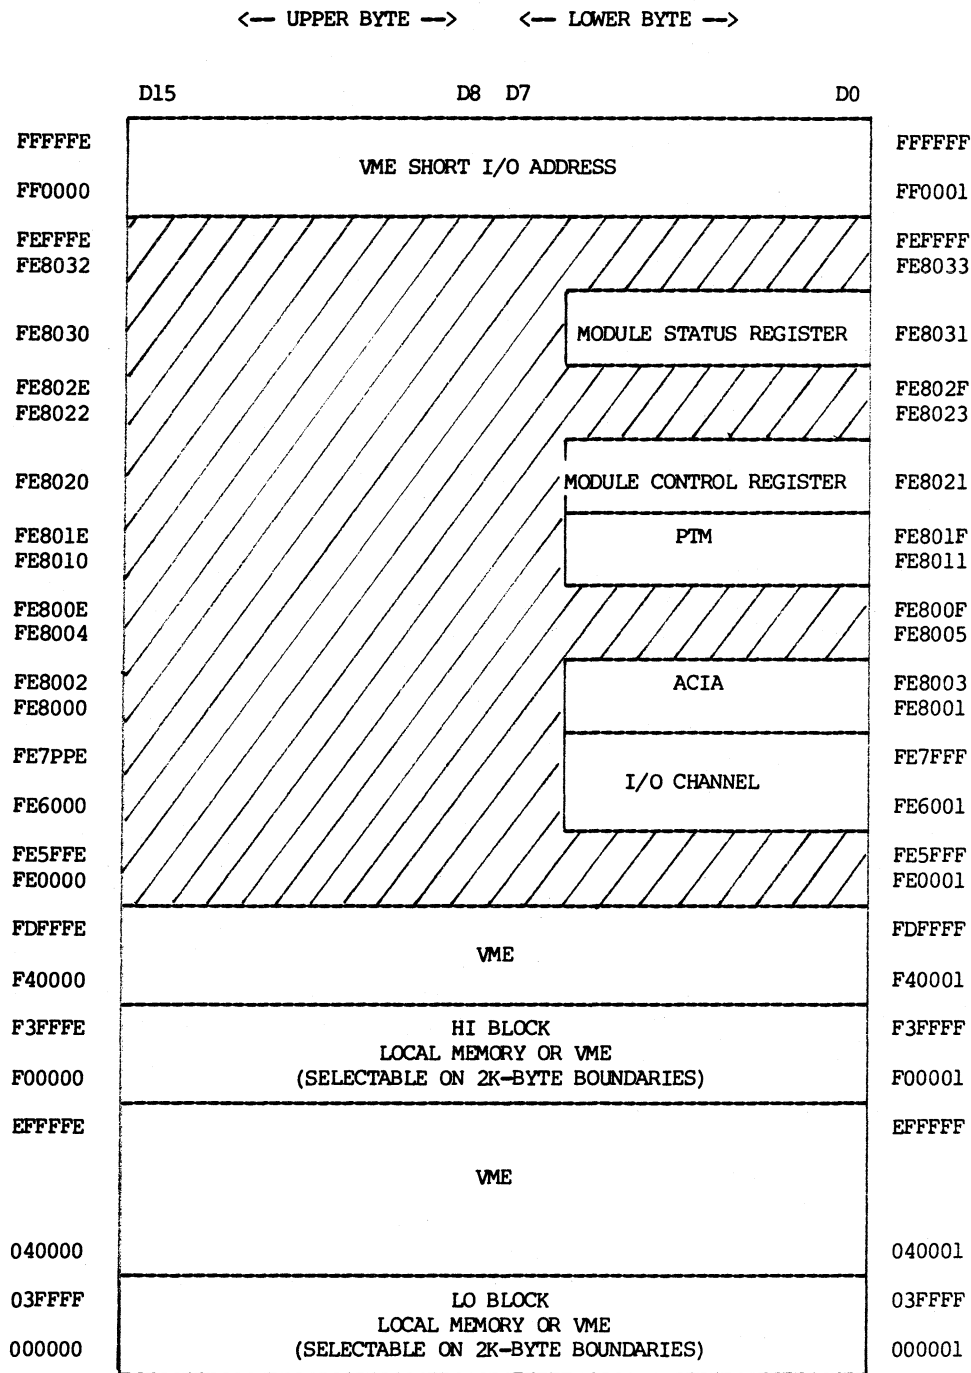

FIGURE 4-3. VME110 Memory Map
- . Normal - the normal cycles are further decoded into the following: (refer to memory map Figure 4-3)